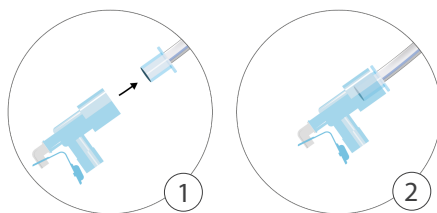

Figure 5: Patient connectivity, connecting Elbow Connector
**NOTE:** If no elbow or straight connector is mounted on the patients airway system, then attach an elbow connector as shown on figure 5.